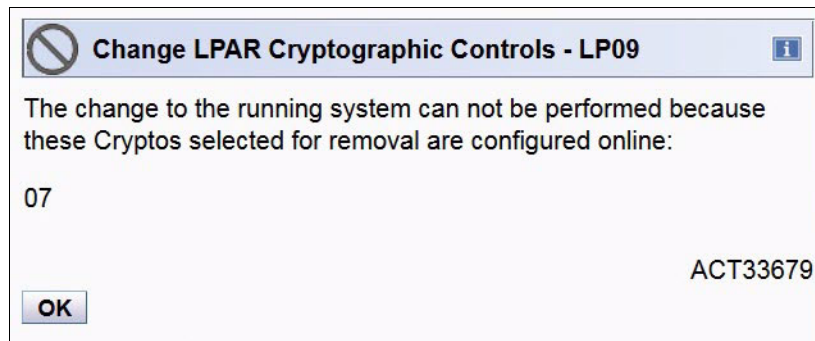

Figure 10-8 SE: Change LPAR Cryptographic Controls: ACT33679
1. Before you change the cryptographic settings by using the Change LPAR Cryptographic Controls task, verify that the cryptographic lists you want to remove from a logical partition are offline (Standby). If you try to remove the lists dynamically while they are online, the change fails and you receive the message shown in Figure 10-8.